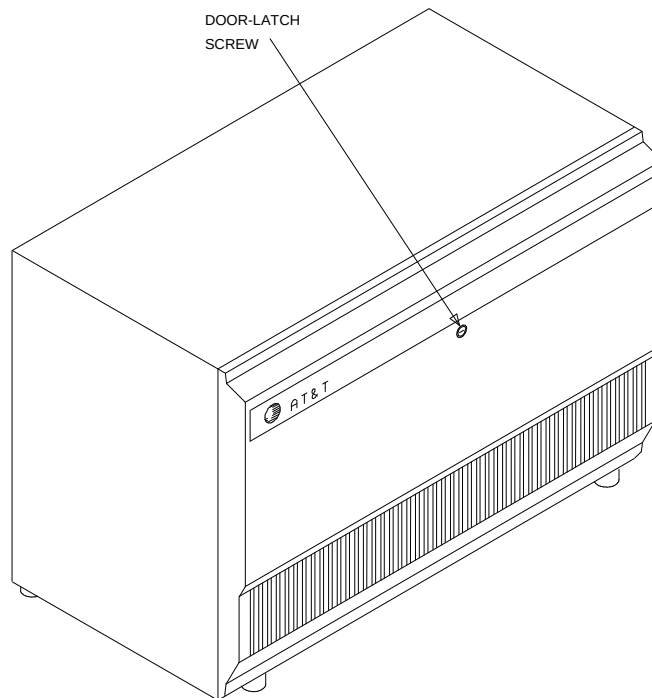

Figure 3-2. Location of Door-Latch Screw for DEFINITY ECS R5si Cabinet
1. Use a screwdriver, and turn door-latch screw counterclockwise one quarter turn to release door (see Figure 3-2).